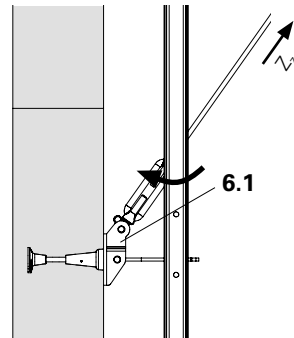

Fig. B1.39
6. Insert Eyelet Bolt Ø 25-M20L (7.5) into the bracing shoe (6.1) and secure with designated bolts and cotter pins. (Fig. B1.39)
(Fig. B1.39)